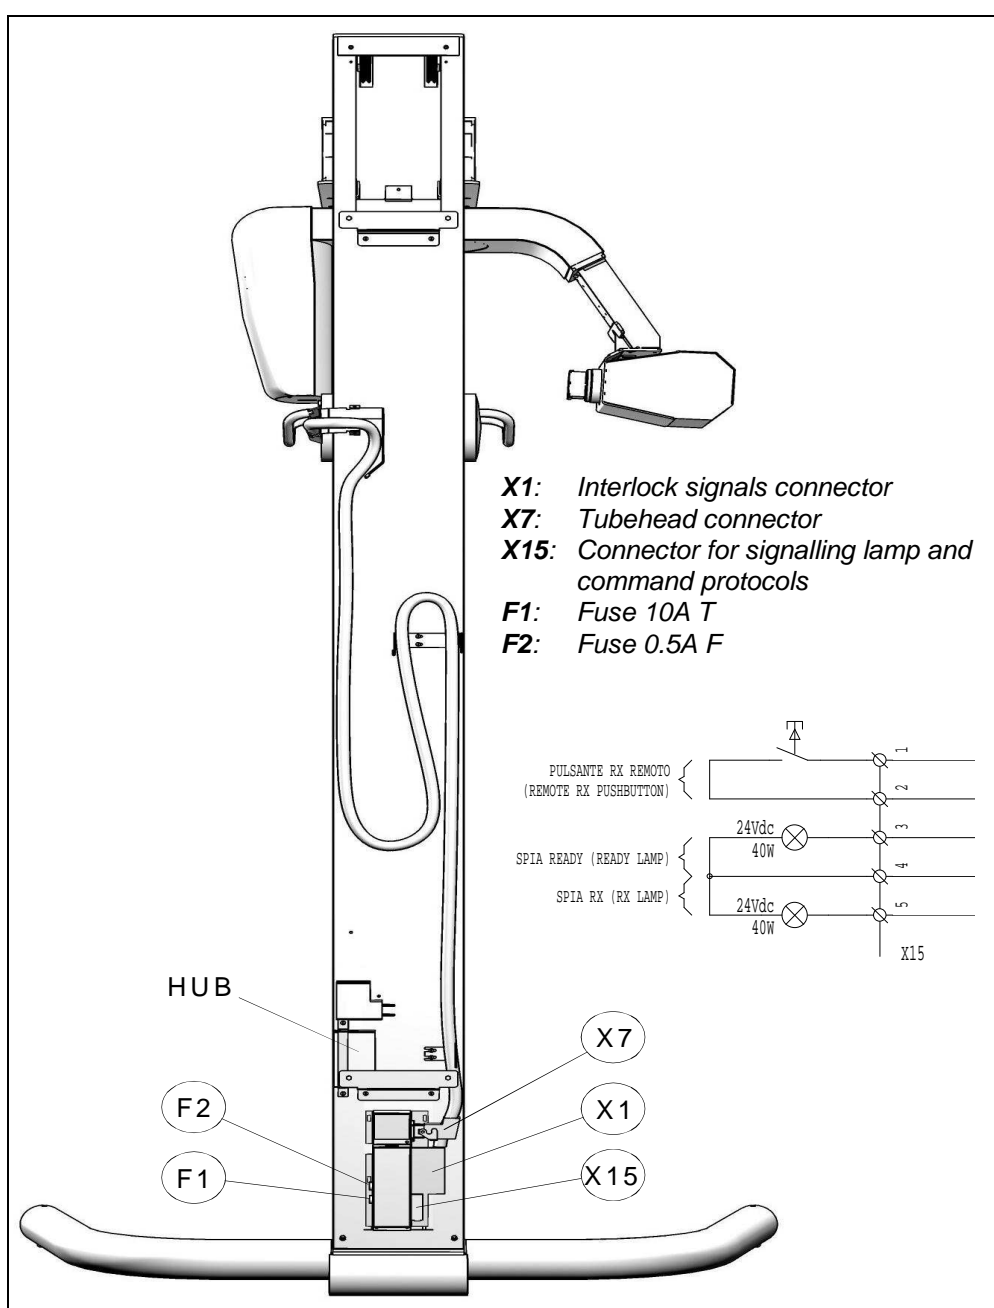

Figure 6-8
The electrical connection has to be made on the X15 terminal (refer to Figure 6-8 and the general wiring diagram at chapter 9).
- 16.** Install the HUB (normally supplied with the accessories) in the rear part of the column as shown in Figure 6-8, tightening it with the dedicated bracket (code 5608101100); fix the HUB power supply with the clamp ties.